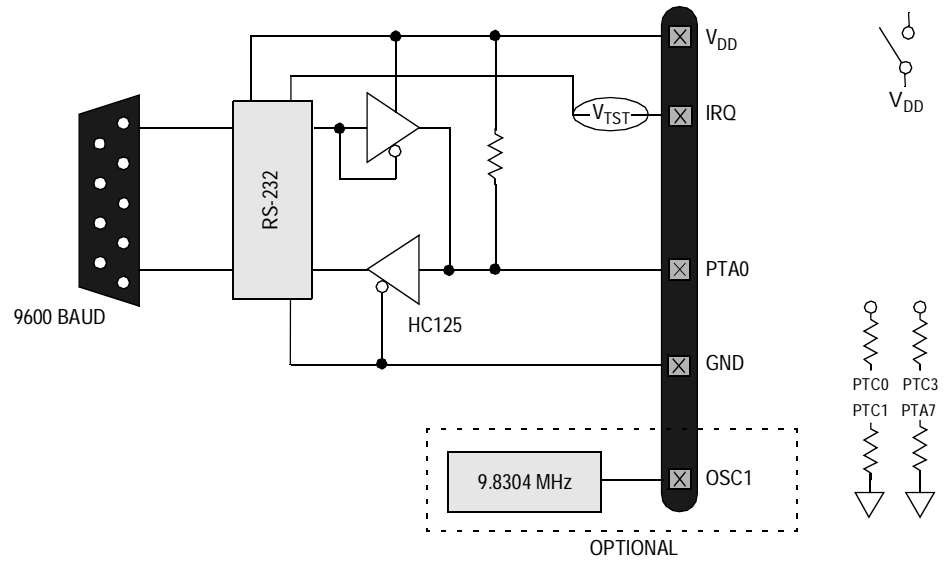
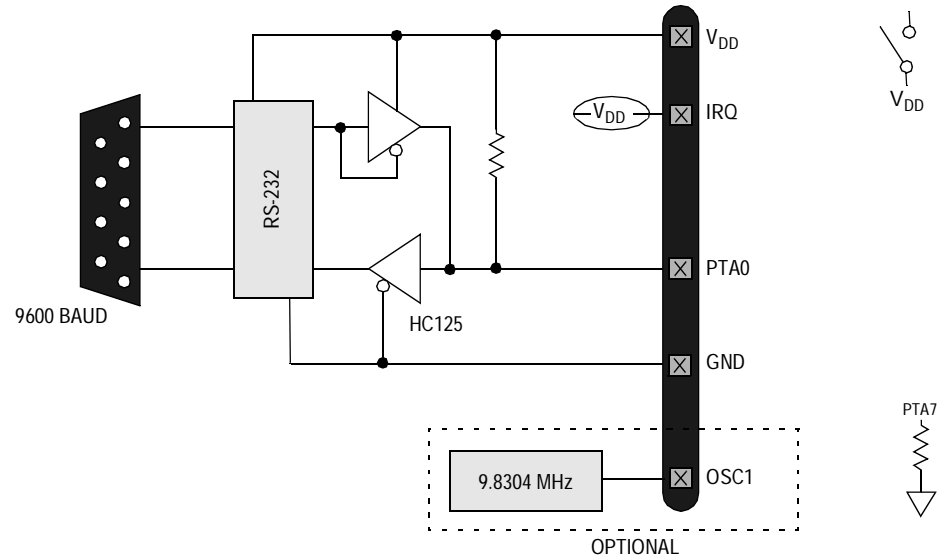
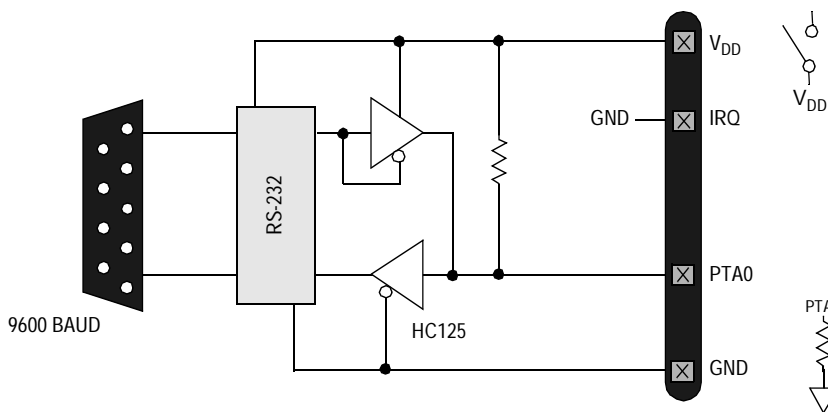

Figure 5. MC68HC908GP32 Standard Monitor Mode (9.8304 MHz)
Figure 6. MC68HC908GP32 Forced Monitor Mode (9.8304 MHz)
Figure 7. MC68HC908GP32 Forced Monitor Mode (32.768 kHz)
- c. The external communications circuit. Also needed is a 5-volt power source to power this circuit (see Figure 5, Figure 6, and Figure 7).
2. Connections (see Figure 5):
- a. Blank part with oscillator value from Table 2. See Figure 6.
- b. Blank part with a 32.768-kHz oscillator. See Figure 7.